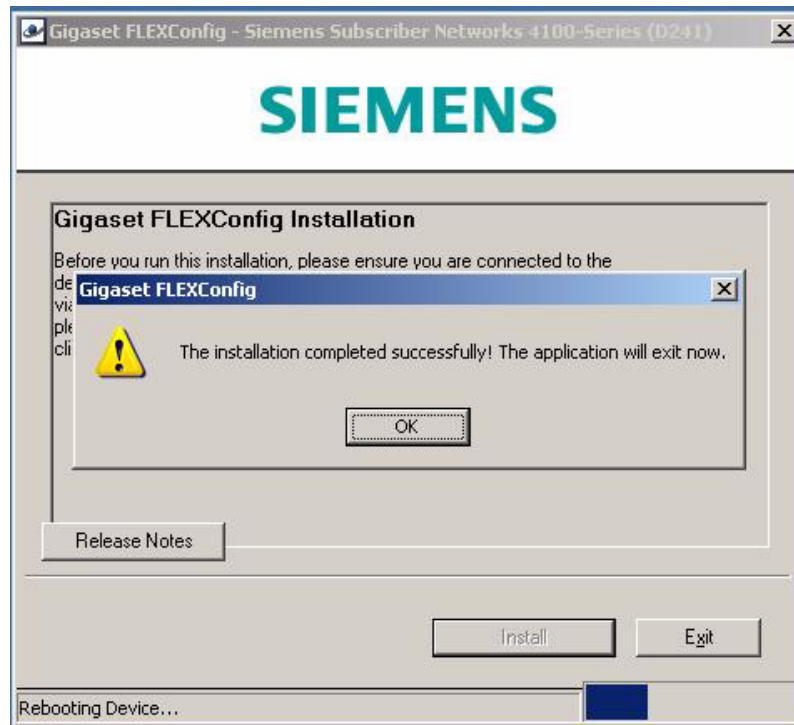

Figure 109: Installation complete
8. Click **OK** to exit the application as shown in Figure 109.